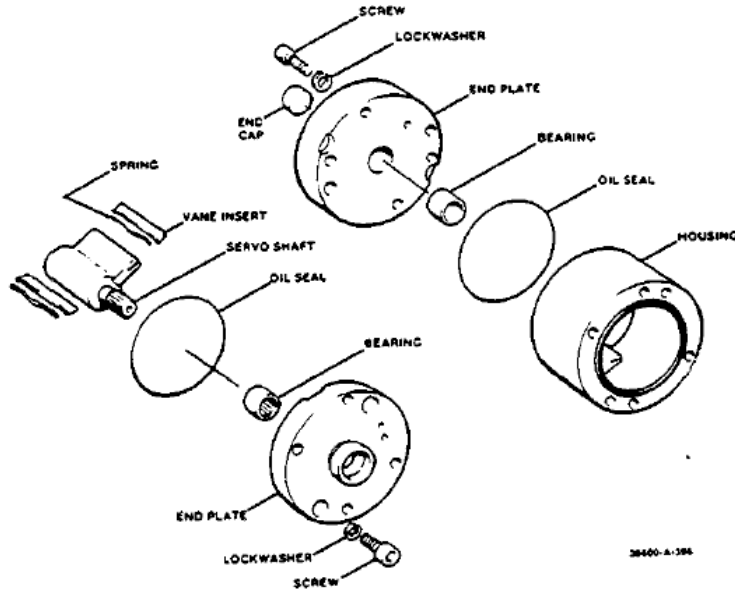

Figure 5-41. Vane Assembly
10. Replace bearings, if required, in end plate. See Figure 5-41. Use a brass punch through bearing end to remove end cap. Then reverse end plate and drive out bearing. Press fit new bearings into both end plates.